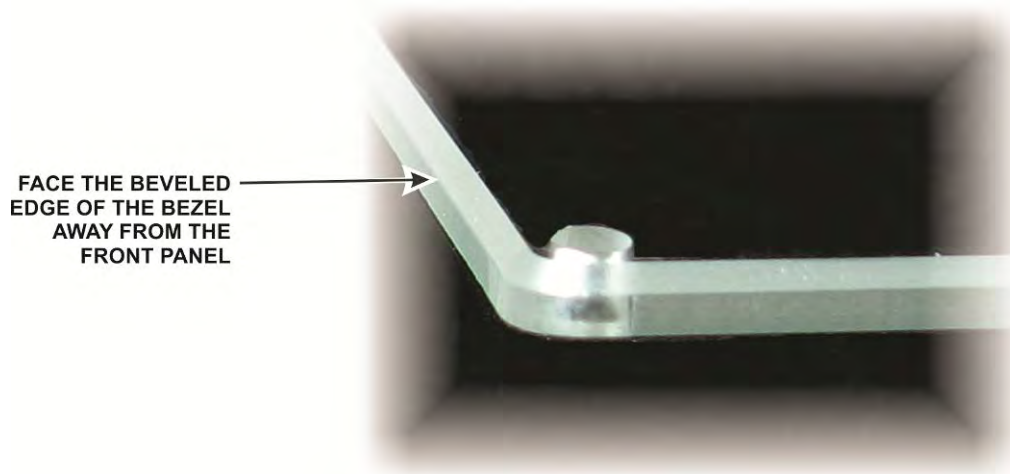

Figure 29. Bezel Beveled Edge.
□ Look closely at the edge of the bezel and note that the edge is slightly beveled on one side (see Figure 29) . This side will face away from the front panel.